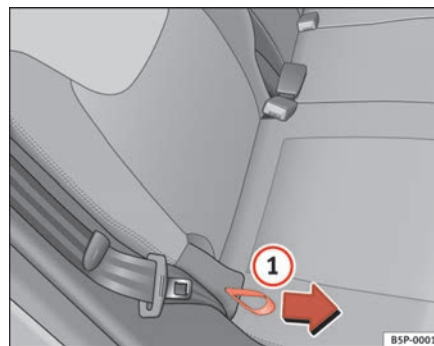

Fig. 97 Rear seat backrest angle adjustment
- Hold the backrest at the top. Pull the loop on the side of the seat ⇒ page 132, fig. 97 ① in the direction of the arrow and hold the loop in this position. Push the backrest to the required position and release the loop.